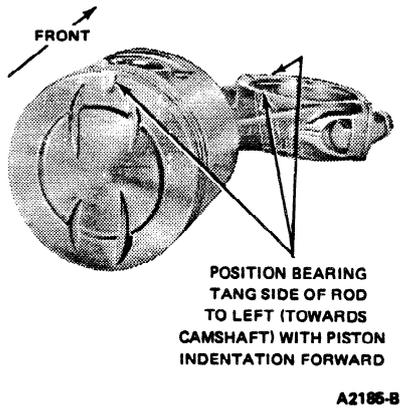

FIG. 68 Oil Hole Position
1. Apply a light coat of engine oil to all parts. Assemble the piston to the connecting rod with the bearing tang side of the connecting rod and the indentation notch in the piston positioned as shown in Figure 68.